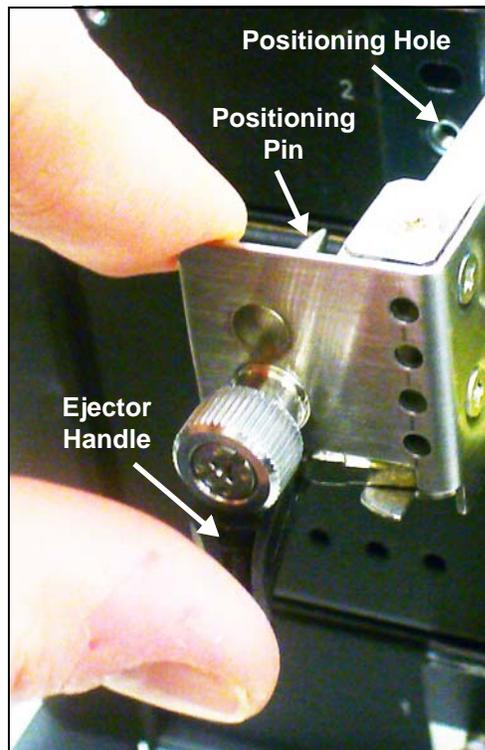

Figure 5.30 - G10 IIC Positioning Pin Alignment
5. Position your thumbs and forefingers as shown in **Figure 5.30** and slide the blade into the chassis until the positioning pins are inserted in the positioning holes in the shelf.